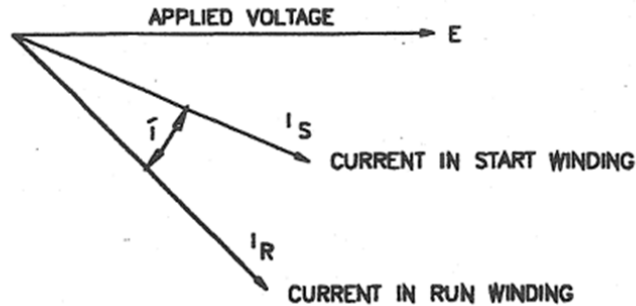

Figure 7 - Phasor diagram of current in the start and run windings.
16. The start and run windings are both inductive so the current in both of them lags the applied voltage. However, the run winding is embedded deep in the stator slots so it is more inductive, so the current in the run winding lags the voltage by more than the current in the start winding. The precise angles of lag depend on the design of a particular motor, but the general relationship between the currents and the applied voltage can be shown on a phasor diagram such as the one shown in Figure 7.